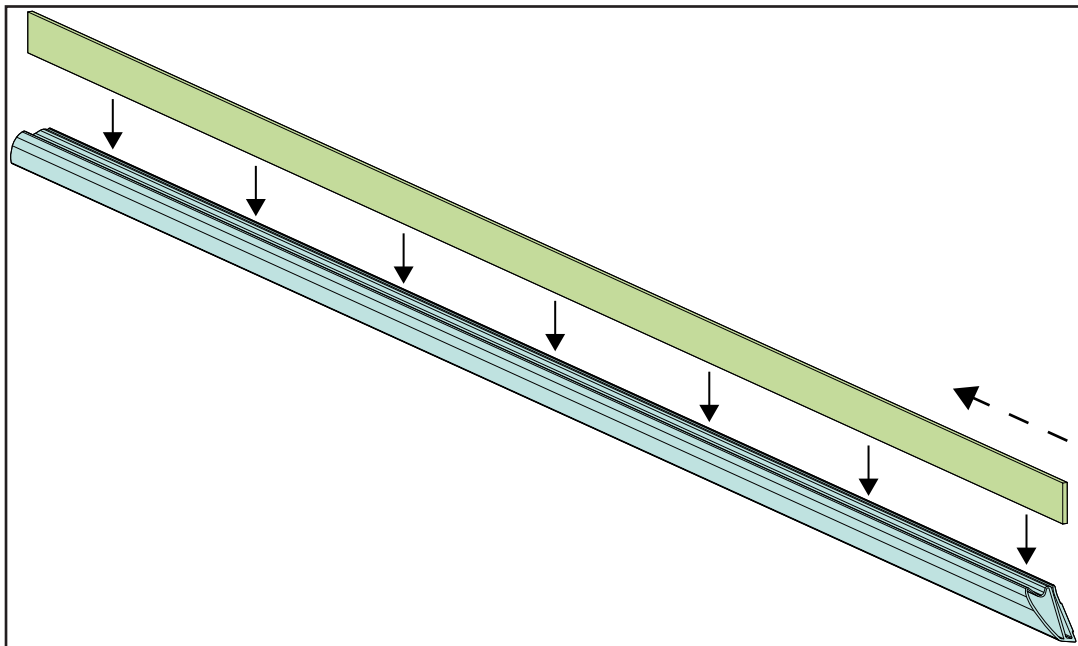

Figure 16
1. *Press the spacer strips top/bottom into the sealing profiles top/bottom (Fig. 16+17).*